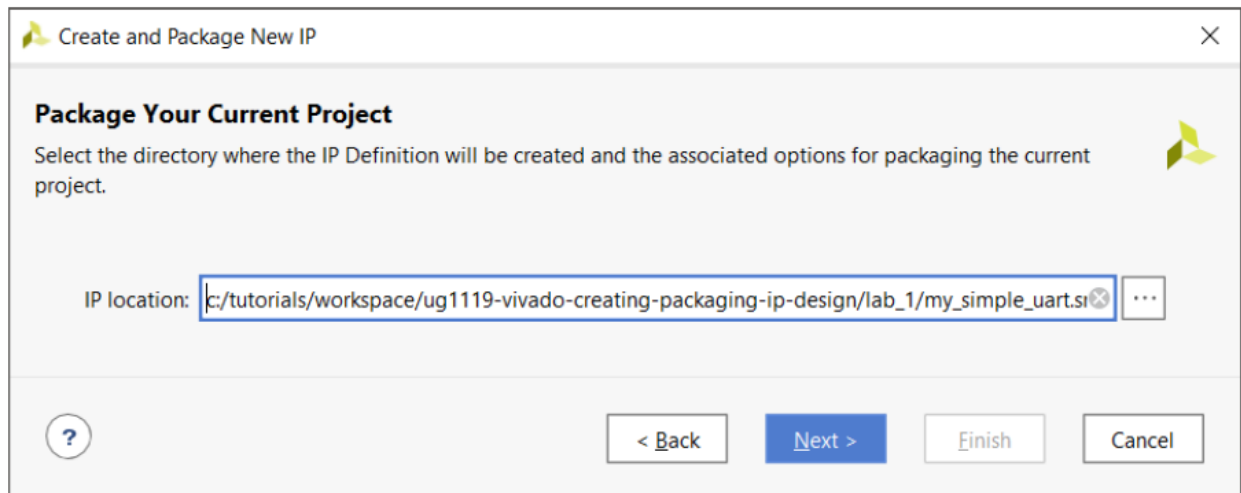

Figure 3-3: Create and Package New IP Wizard: Package Your Current Project
2. In the Package Your Current Project dialog box, (Figure 3-3), provide the **IP location** information: